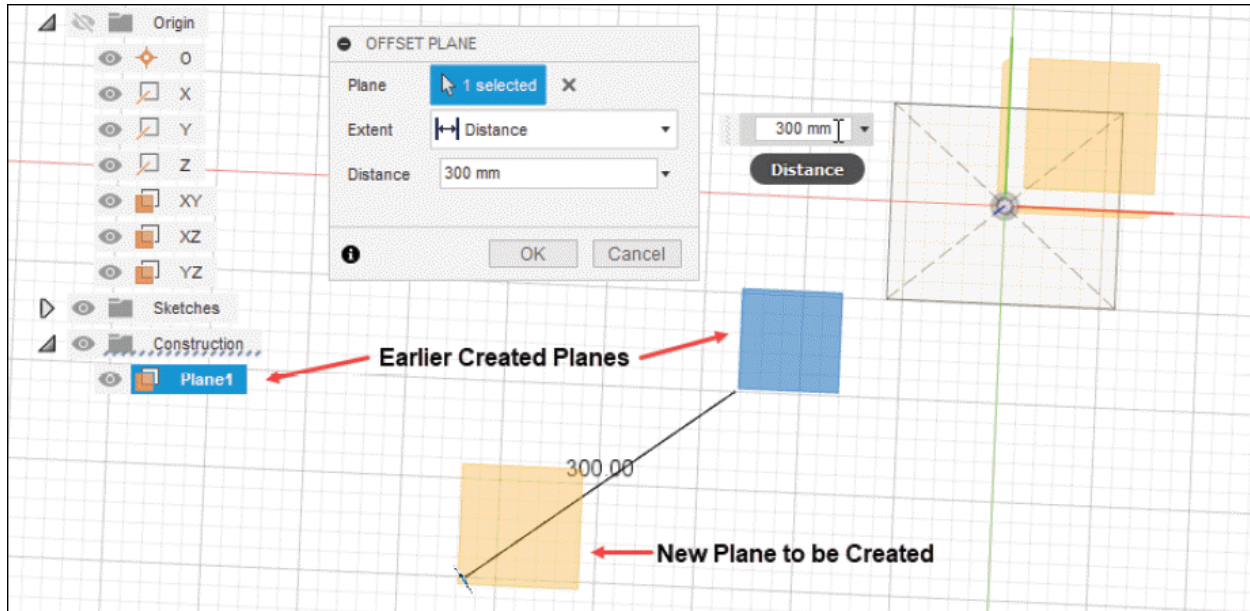

Figure-7. New plane to be created
- Click again on the **Offset Plane** tool from the **CONSTRUCT** drop-down in the **Toolbar** and create another plane at an offset distance of **300** from earlier created plane; refer to Figure-7.